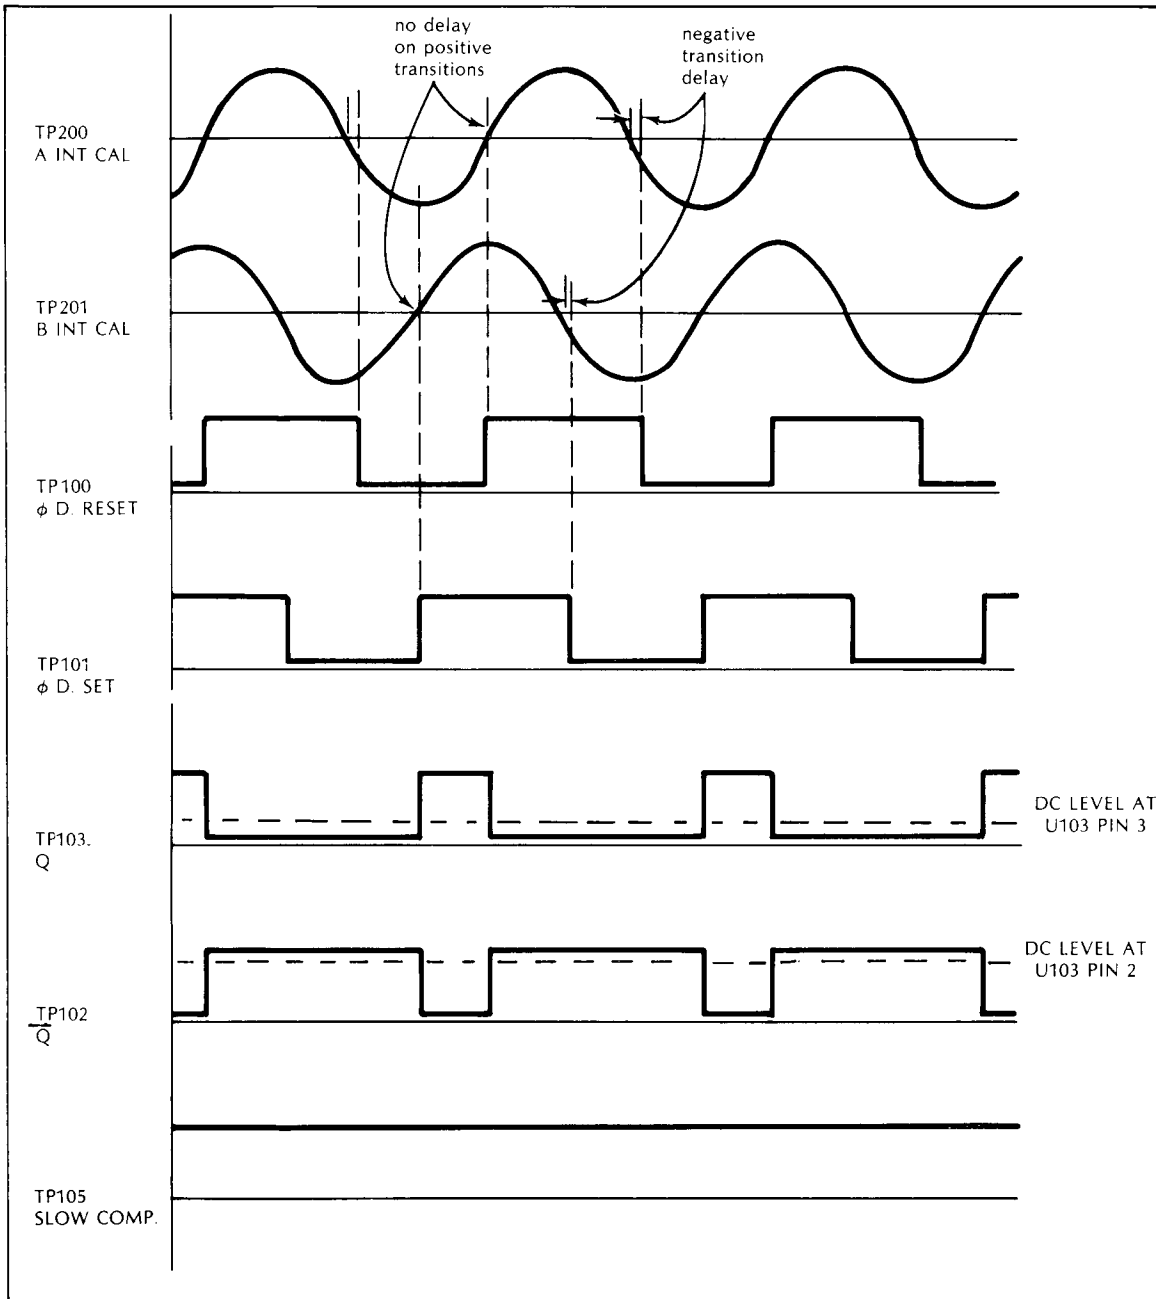

Figure 6-59. Timing Diagram for the Phase Cal Path
Figure 6-59 shows that the zero crossing detectors output timing is accurate for positive transitions and has a slight delay for the negative transitions. This inaccuracy is eliminated by taking a second measurement with opposite input polarity and averaging the two measurements.
- c. Two interconnected flip-flops form the phase detector, which is driven by the two zero crossing detector outputs. Refer to the waveforms in Figure 6-59 for the following discussion.